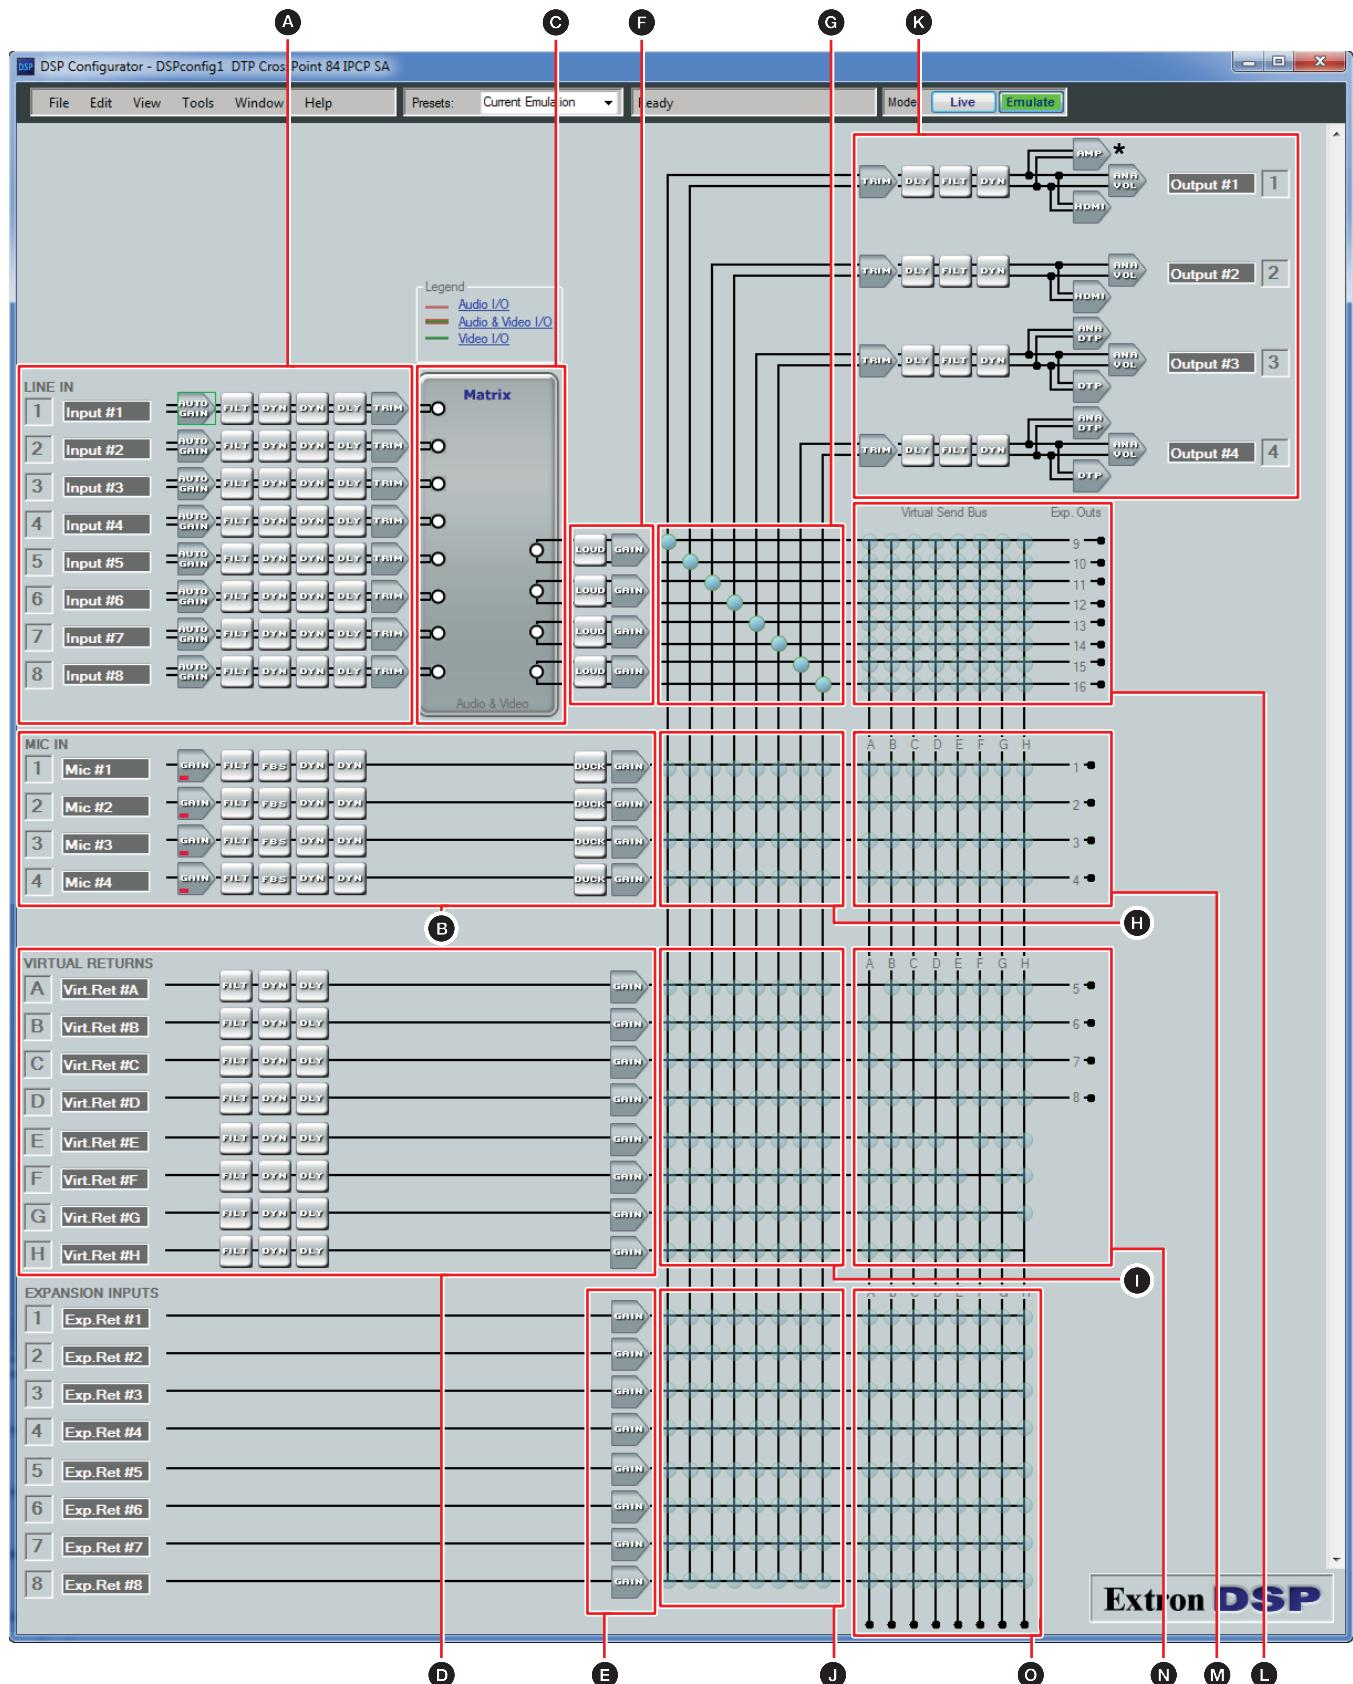

Figure 40. DSP Configurator Screen and DTP CrossPoint Selection
2. If necessary, select the DTP CrossPoint switcher in the drop-down box and click **OK** (see figure 40, 1).
The DSP Configurator program always starts in the audio and video I/O page, as shown in figure 40 on page 80. The audio-only I/O page looks virtually identical. The video-only I/O page strips out all of the audio control blocks (see Video-only I/O page and audio-only I/O page on page 104).
The DSP Configurator program window consists of a number of signal processor chains, an AV matrix block, a mic mixer block, and several other mixer blocks (see figure 40).
(see figure 40, A on page 80)